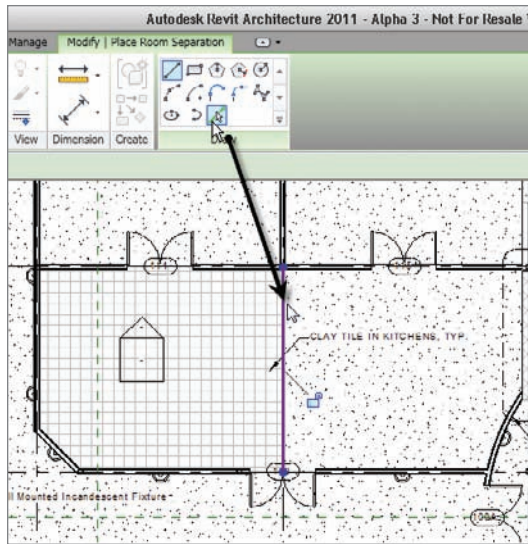

FIGURE 15.26 Adding the room separation line
6. Pick the edge of the flooring, as shown in Figure 15.26.